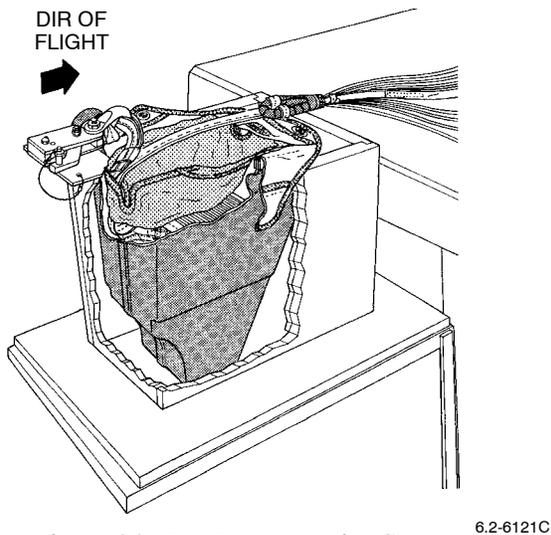

Figure 34. Pull Up Protective Sleeve
h. Pull up protective sleeve. Fold rear, left, front, and right sides of sleeve down in that order. Ensure that drogue parachute assembly is firmly packed. Adjustment of internal mass by external hand pressure is permissible (Figure 34).